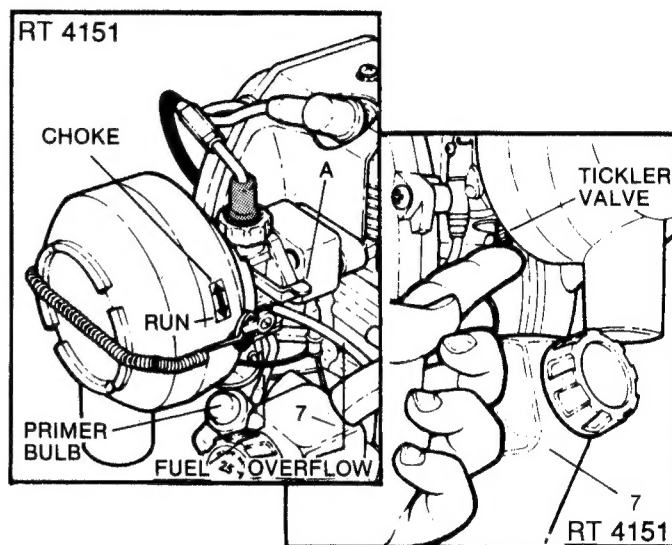

FIG. 3 - PRIMING THE ENGINE ON RT 4151
On the RT 4151, pump the primer bulb on FUEL TANK (7) while holding the tickler valve in until fuel starts flowing through overflow tube as shown in FIG. 3. Priming is not required with a warm engine. **NOTE:** Failure to hold tickler valve in while priming will flood the engine.
2. Move the CHOKE LEVER (A) to the CHOKE position on cold engines. Place your foot on the wheel to secure unit while pulling the starter rope. Pull the starter handle with the right hand using full strokes until the engine starts to run.
3. After the engine has warmed up for approximately 5 seconds, move the choke lever (A) down to the RUN position.